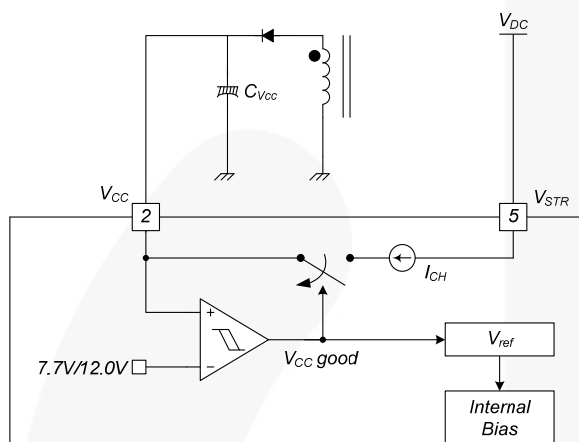

Figure 17. Startup Block
1. Startup: At startup, an internal high-voltage current source supplies the internal bias and charges the external capacitor (C_{VCC}) connected to the V_{CC} pin, as illustrated in Figure 17. When V_{CC} reaches 12V, the FSGM300N begins switching and the internal high-voltage current source is disabled. The FSGM300N continues normal switching operation and the power is supplied from the auxiliary transformer winding and the power is supplied from the auxiliary transformer winding unless V_{CC} goes below the stop voltage of 7.7V.